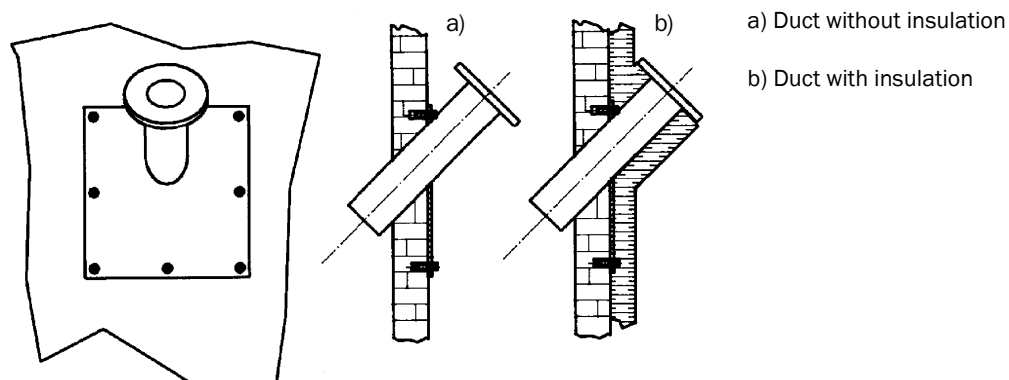

Fig. 3.9: Installation options for the flanges with pipe
- with brick and concrete ducts, tack it to a holding plate (see **Fig. 3.9**)
- In thin-walled ducts/pipelines, provide suitable brackets/reinforcement to prevent distortion and vibration (see **Fig. 3.9**).